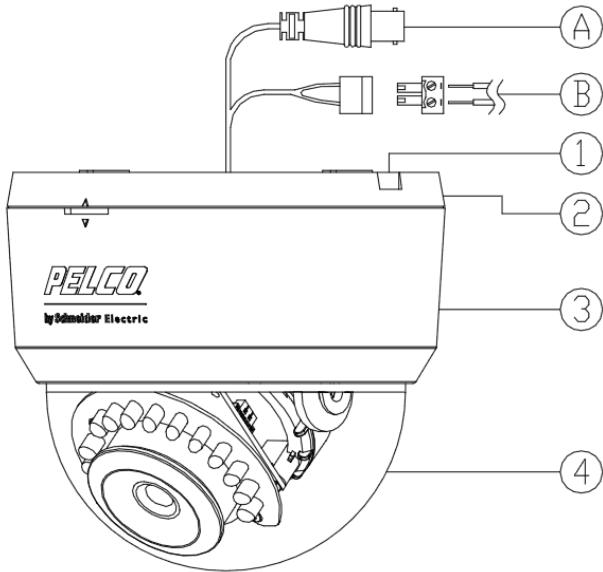
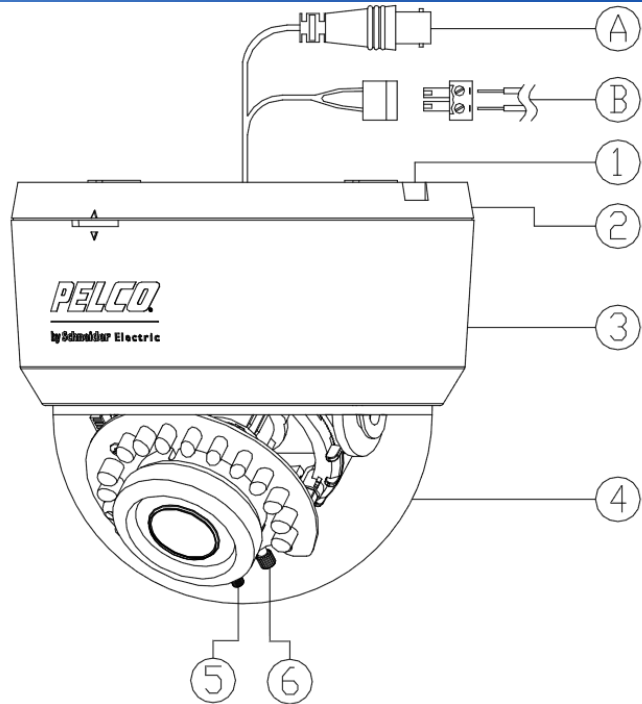

Figure 1-4 FD1-IRF4
Figure 1-5 FD1-IRV9
2.2(B) Connecting the Wiring
Refer to Figure 1-4 and Figure 1-5 to connect the video connect output connector (A) and DC 12V power connector (B).